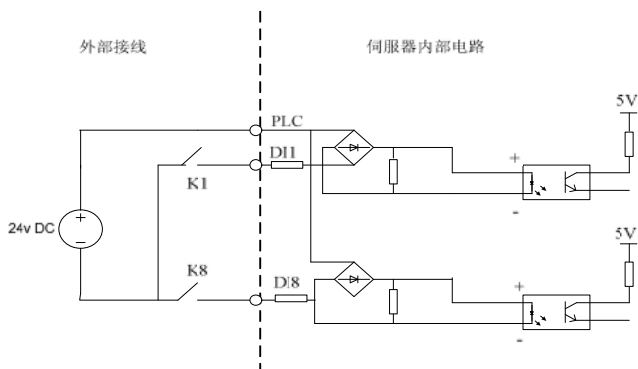

Fig. 2-2 Connection Mode Using an External Power Supply Switch Control
2) Connection mode using an external power supply, and adopting switch control as is shown in Fig. 2-2 (Note to remove the connecting wire between PLC and 24V terminal).